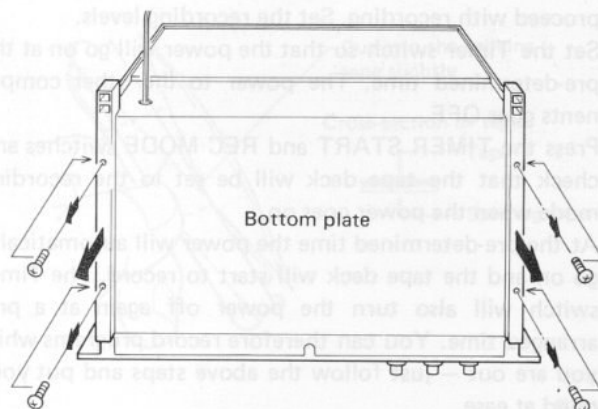

Fig. 26
1. Remove the two feet of the RT-909 with a medium-sized Phillips head screwdriver (see Fig. 26).